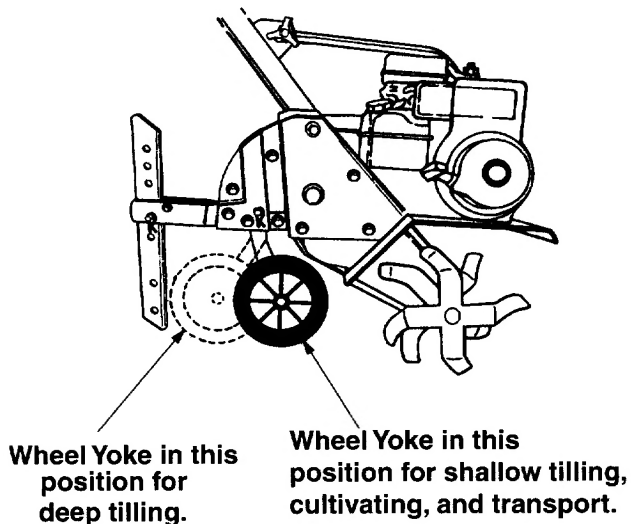

Figure 8.
1. **Wheel Yoke Adjustment:** Place wheel yoke so that the wheels are forward (nearest point between wheels and tines) for shallow tilling, cultivating and transport. The forward speed will increase. Turn yoke around (farthest point between wheels and tines) for deep tilling. Forward speed will decrease. (See Figure 8)